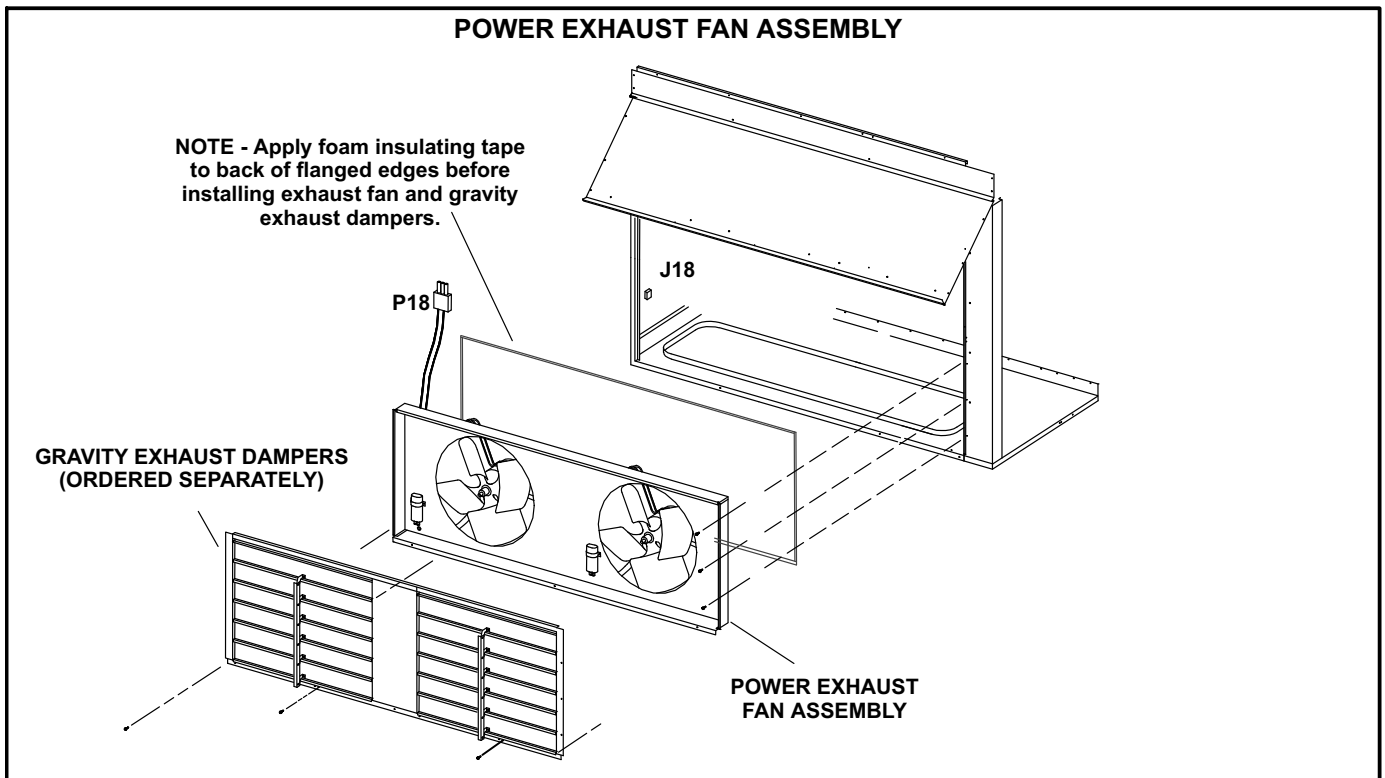

FIGURE 11
- 4- Reach through fan orifice and connect power exhaust fan P18 plug to unit J18 jack. J18 is located on the left side underneath the fresh/exhaust air divider panel. See figure 11. Coil and wire tie excess wire away from moving parts.